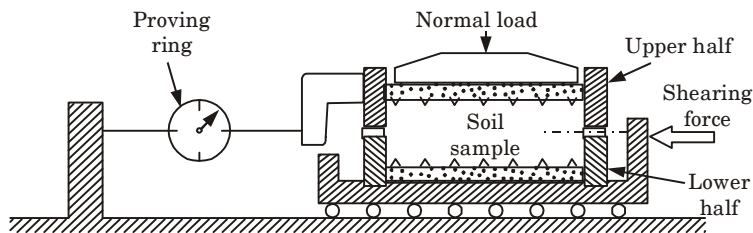

Fig. 4.15.1. Direct shear test.
3. The apparatus consists of a square brass box split horizontally at the level of the center of the soil sample, which is held between metal grilles and porous stones as shown in Fig. 4.15.1.
4. Vertical load is applied to the sample as shown in the Fig. 4.15.1 and is held constant during a test.